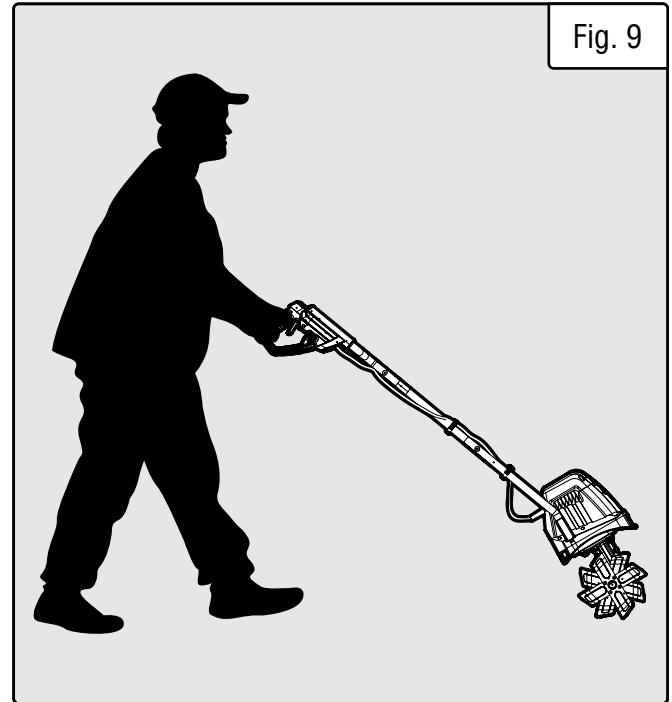

Fig. 9
3. Connect to the power supply and hold the tiller firmly when starting. The tines will pull the tiller forward during operation (Fig. 9).